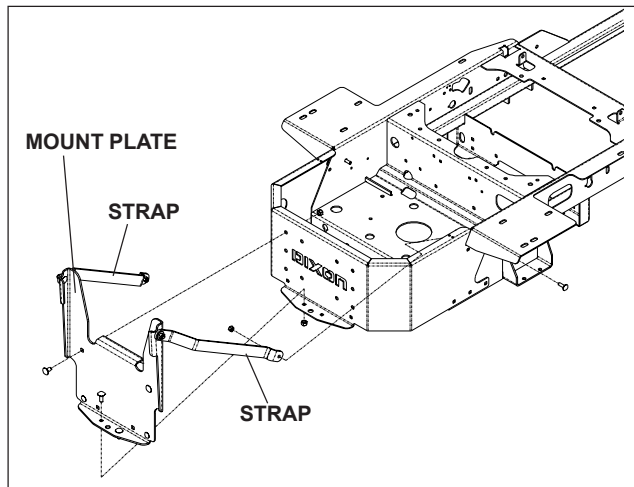

FIGURE 1
1 COLLECTION MOUNT BRACKETS (See Figure 1.)
3. Attach a bagger strap to side hole in bagger mount plate. Use 3/8-16 x 1" carriage bolt, 3/8" washer and 3/8-16" nyloc nut. Attach other end of bagger brace to top front hole in engine guard, using existing frame hardware. Refer to Figure 1. Repeat for other side of machine.